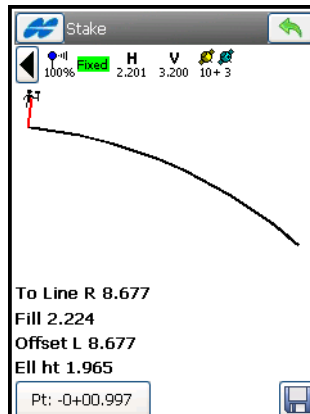

Figure 9-24. Stakeout Curve
3. For GPS+: use the information on the Stakeout **Curve** screen to find the target curve (Figure 9-24). Tap  after the point is close enough to the curve and at the desired distance from the starting point.